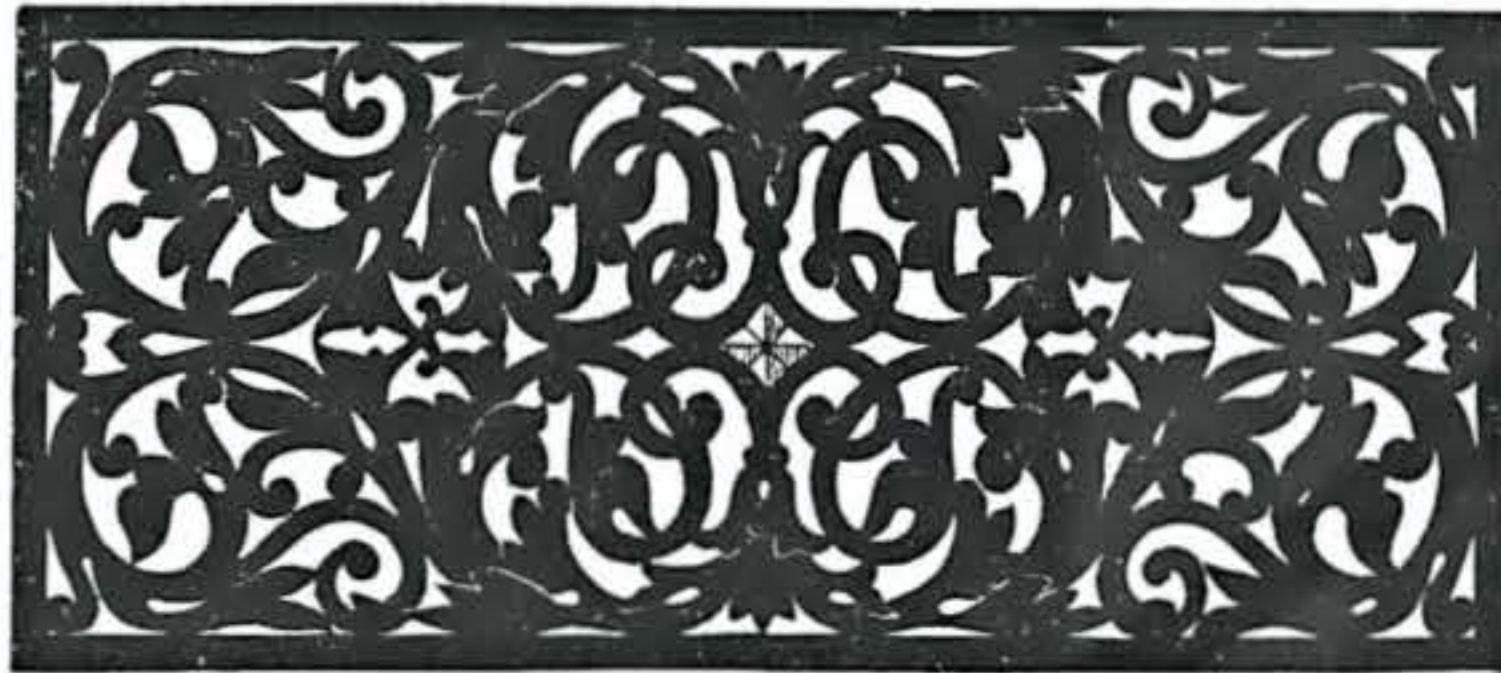
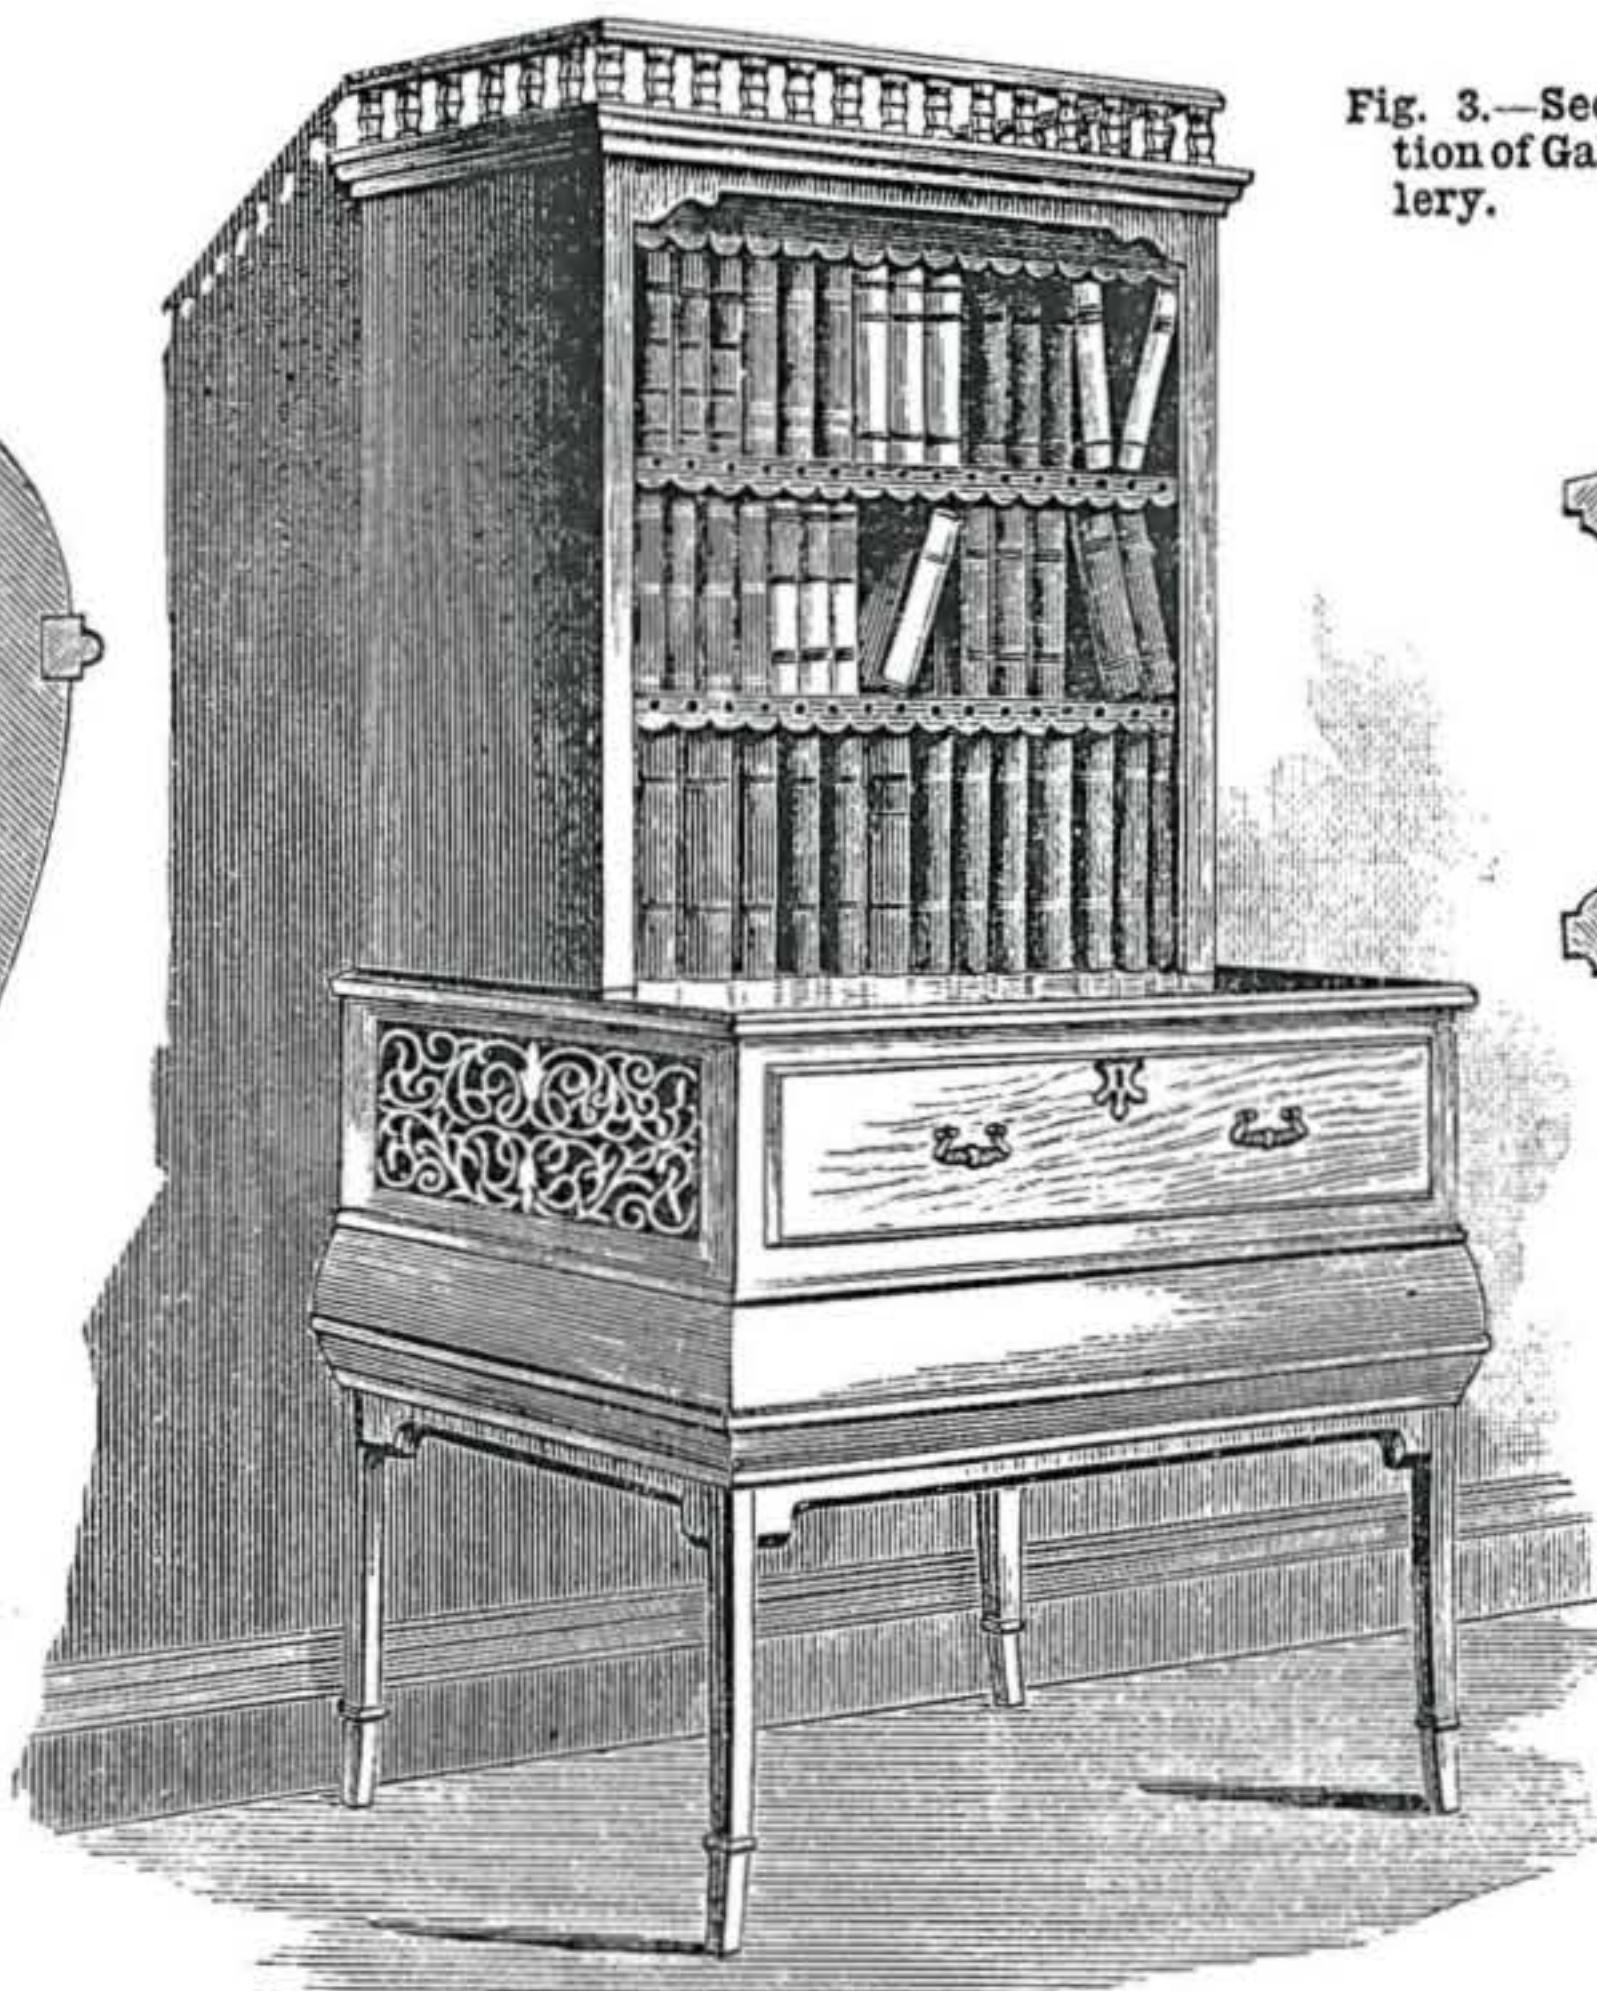
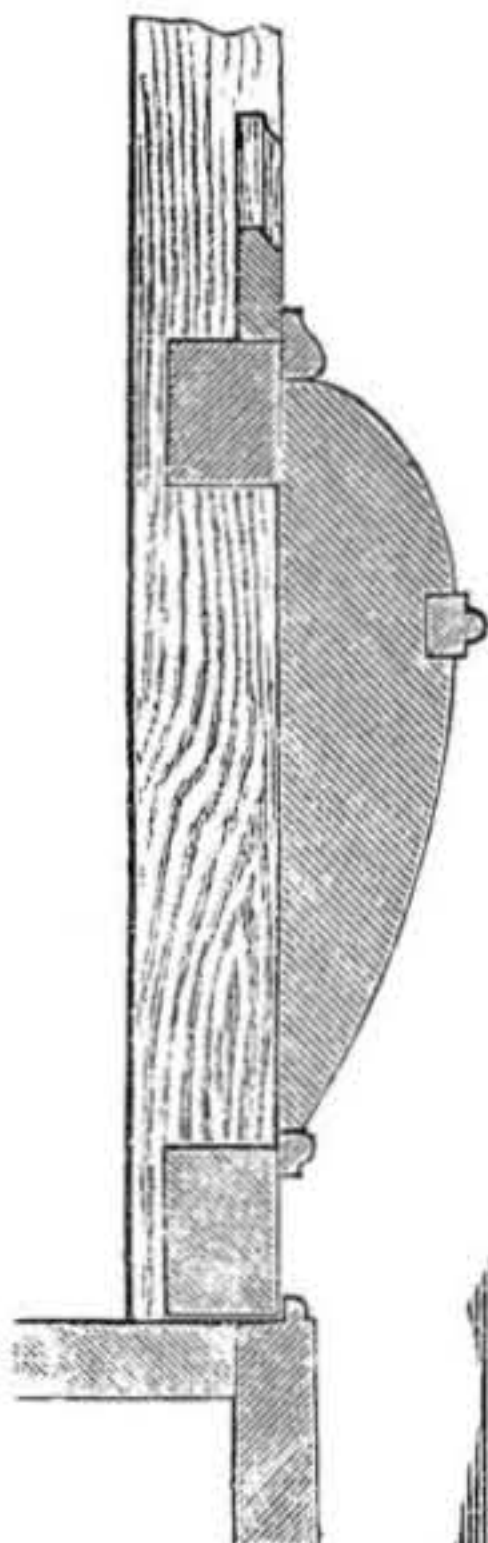
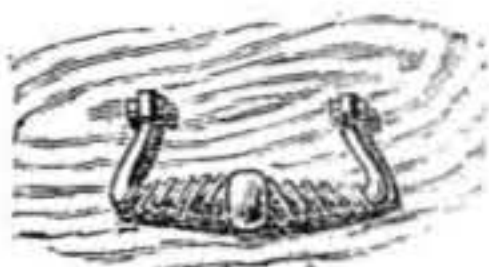

Fig. 2.—Fretwork Panels at Sides.
Fig. 1.—Perspective Sketch of Parlour Bookcase.
Fig. 5.—Section of Plinth, etc.
Fig. 6.—Handle.
Fig. 2.—A Convenient Arrangement for Fine Adjustment—A, Stand for Camera; B, Connecting-Rod turned by Milled Head, C; D, Pulley connected with Fine Adjustment, E; F, Screw for roughly focussing Object.
A practical difficulty with which the worker has to contend is, that the long extension of the camera necessary places him so far from the fine adjustment of the microscope that it can sometimes only be reached with the tips of his fingers, and turned at the risk of upsetting the whole concern. This difficulty can be overcome in the following way, which is used by Messrs. Perken & Rayment in their micro-photographic apparatus. A table A (see Fig. 2) is made of sufficient length to support the camera when racked out to its farthest limits, and of a height to make the camera when placed on it of the right height for the microscope. Through the centre of the supports (which are of the same length as the breadth of the top) is fixed a bar (B), having a milled head (C) at one end and a pulley (D) at the other. This latter is connected with the fine adjustment (E) of the microscope by means of an endless band, so that the fine adjustment can be moved by the milled head (C). The focussing is now begun by means of the screw (F), and the remainder accomplished by turning the milled head (C), which can of course be easily accomplished while keeping the head under the focussing cloth.
Cutting Pliers.—First there is the pair of cutting pliers (Fig. 2). These comprise flat jaws (A) and a cutting edge (B). The latter is not required so much, because the snips fulfil the purpose. Nevertheless, the pliers will cut off the narrower strips of iron if the snips do not happen to be at hand. The primary function of the pliers, however, lies in the jaws. Between their flat, roughened-up faces short lengths of strip are flattened out and straightened, curves that are not regular are corrected, the kinks being pressed out, and one end of a strip is held while the length left free is bent to any curvature required, or waved, or twisted.
Punching Holes.—Holes have to be punched in the iron for rivets. The punches are made of steel. What are called "brad punches" will do, being about $\frac{1}{16}$ in. in diameter at the point (Fig. 5, A). The iron (B) is laid upon the end grain of a block of hard wood (C) for support, while the punch is being driven through. A bench hammer of about $\frac{3}{4}$ lb. weight is also required.
Bent Iron Work. Fig. 1.—Tinmen's Snips. Fig. 2.—Cutting Pliers. Fig. 3.—Round-nosed Pliers. Fig. 4.—Long-nosed Flat Pliers. Fig. 5.—Punching Holes in Iron. Fig. 6.—Rymer. Fig. 7.—Small Anvil and Stake. Fig. 8.—Elementary Curves and Forms. Fig. 9.—Templet Pins.
Walnut is about the best wood for the execution of this design, but it can be made cheaply in white deal. In this latter case the wood should be selected of an even grain and without large or loose knots. It is better to pay a higher price for the wood than to have cheap material covered with these defects. Brass fittings will afford a pleasing contrast with the wood. Figs. 6 and 7 show suitable designs for the handles and escutcheon.
The legs are 1½ in. square, and taper, with brass shoes at the bottom for their protection. All the rails are 1½ in. square, tenoned into the legs. Fig. 5 is a section through the bottom part of the front, and, as the reader will observe, shows the manner in which the boldly projecting plinth is made up, moulded fillets being applied in three places and the angles mitred properly. If the bookcase is made in walnut I would strongly
projecting half-bead. This detail is very frequently met with on the edges of the door in old clocks. The drawer is otherwise made in the ordinary way with hidden dovetails. In fitting together, the front mould is apt to get damaged, and the necessary precautions should be taken to avoid this. Fig. 4 is the section of a mould run round the edge of the top. The two side panels are filled in with ½ in. stuff, fitting at the back into rebates in the legs, etc. An excellent method of ornamenting it is to fill up the front with a design in fretwork. If this is cut out and filled in closely against the sides, it will have the rich appearance of sunk or "incised" work, as it is technically called, in which the ground is removed, leaving a flat projecting design. Fig. 2 is an original design which would prove suitable for the panel. It may